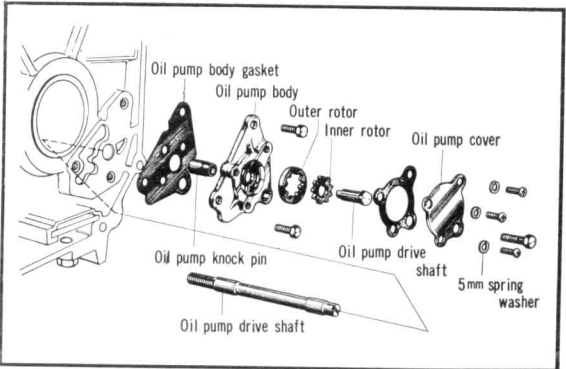

Figure 3-12. Disassembling the oil pump
- (1) Remove the clutch assembly as described in section 3.14a.
- (2) Remove the three 6mm bolts and remove the oil pump as a unit. (Fig. 3-12)